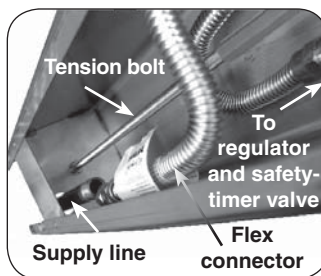

Fig. 7-2
3. Verify that the gas supply line fits through the gas line clearance hole in the bottom of the post (see Fig. 7-2). The clearance hole is the larger of the two holes in the bottom of the post and is off center.
5. Attach the extension to the bottom of the barbecue post so that the open portion is toward the back of the barbecue and the five holes in the extension line up with the five (5) weld-nuts in the post.